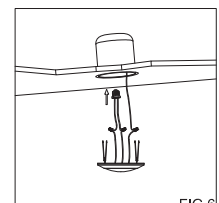

FIG.7
- After installation, clamp the spring hook, And put it in a 5-inch or 6-inch container (FIG.7)